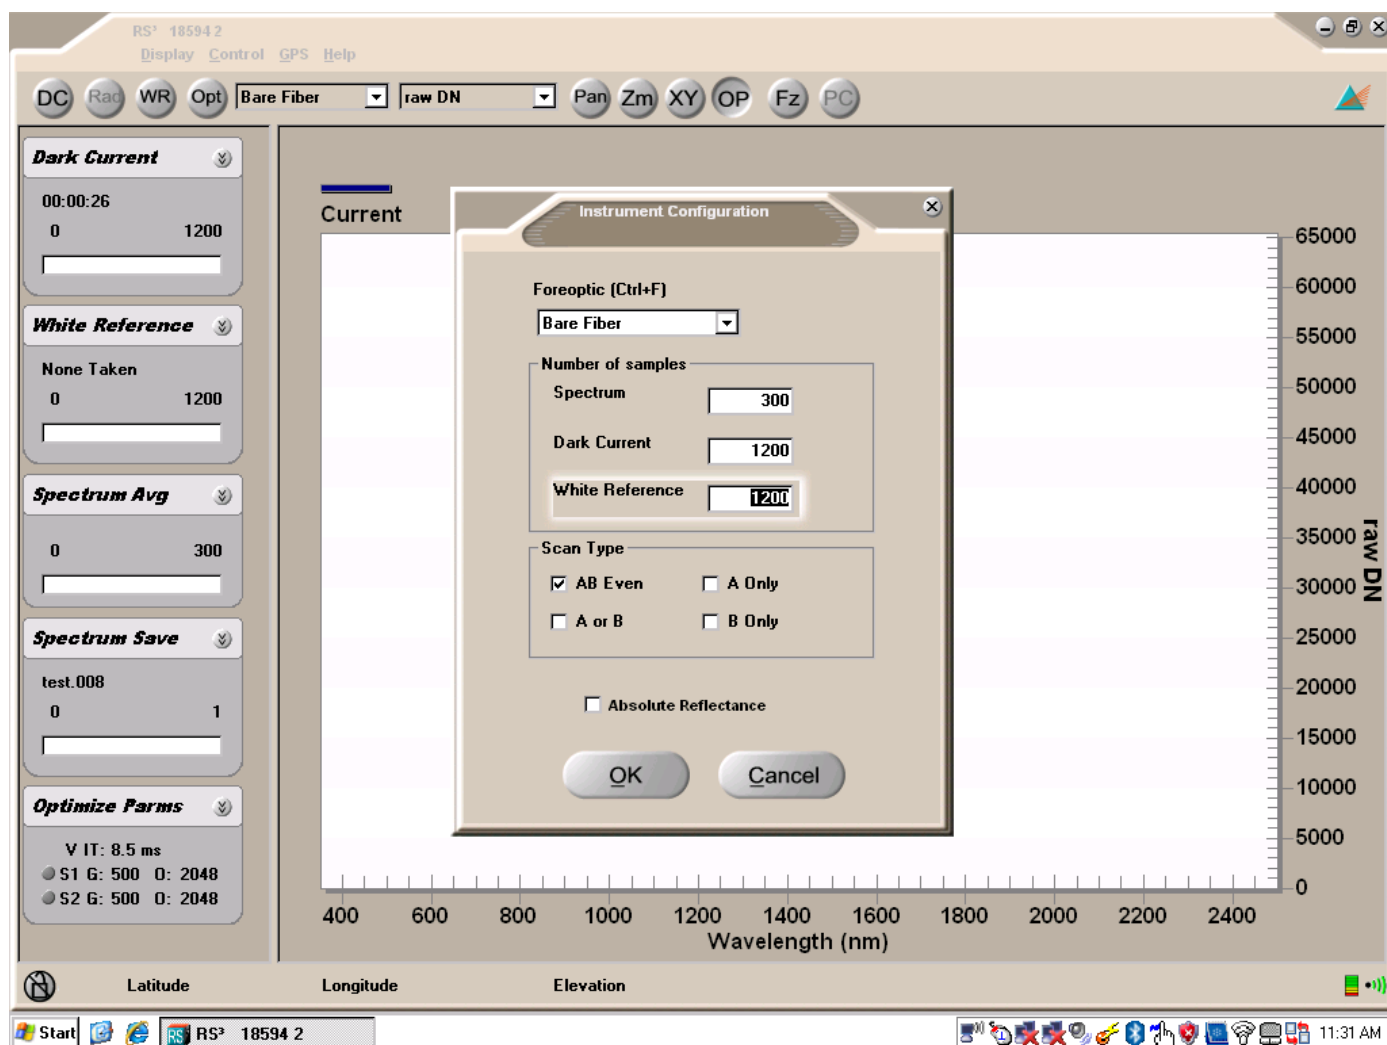

Figure 1. Spectrometer “Instrument Configuration” menu in the RS3 software.
- 7.3.10 Select "Control" on the top menu, then select "Adjust Configuration" from the drop-down menu (Fig. 1) Because of recent design changes, all of our ASD spectrometers are shutterless so the default dark current measurement is 100. Even if the Analyst sets this parameter at another value the software defaults to 100 counts for the dark current and the value listed in the configuration menu will show as "100."